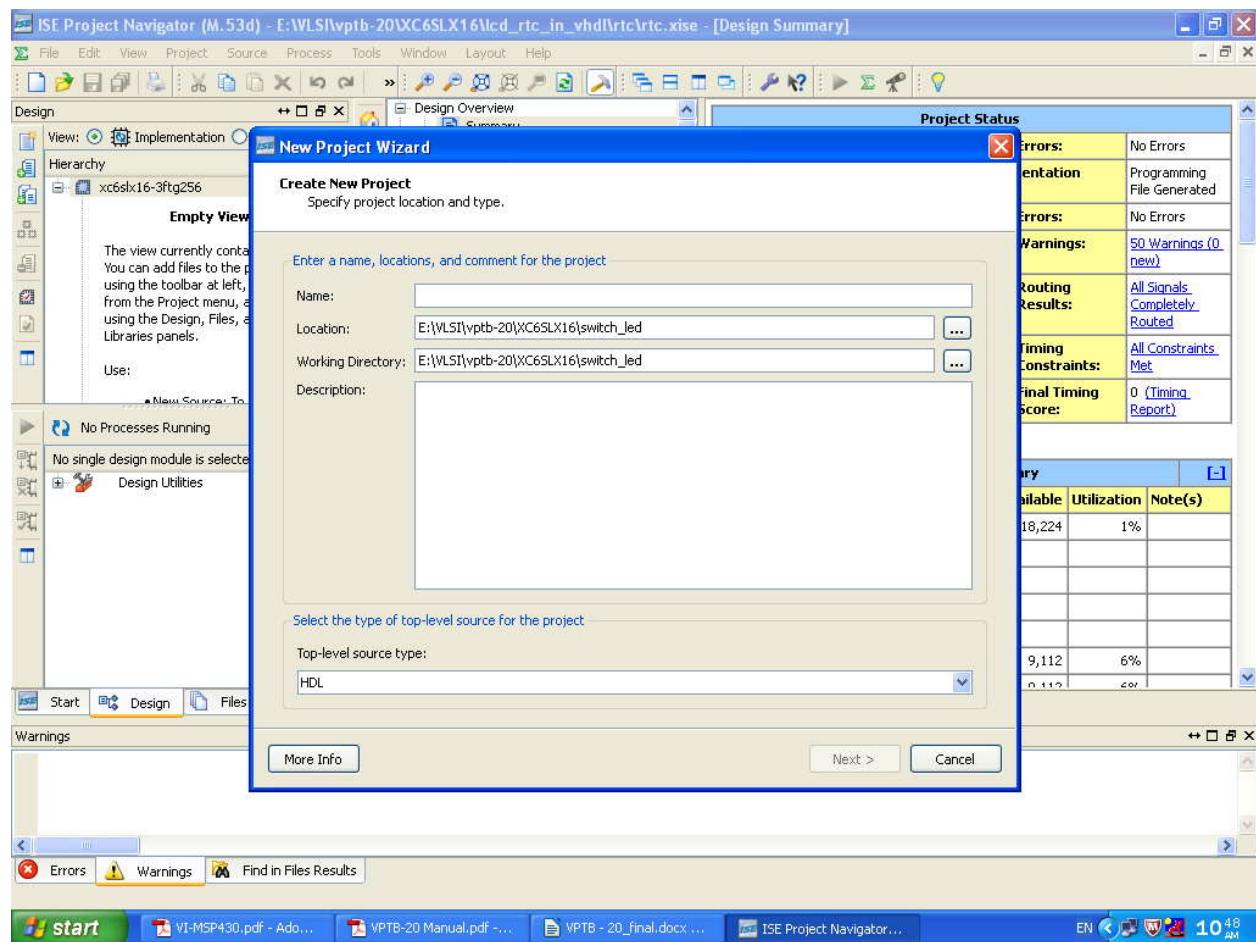
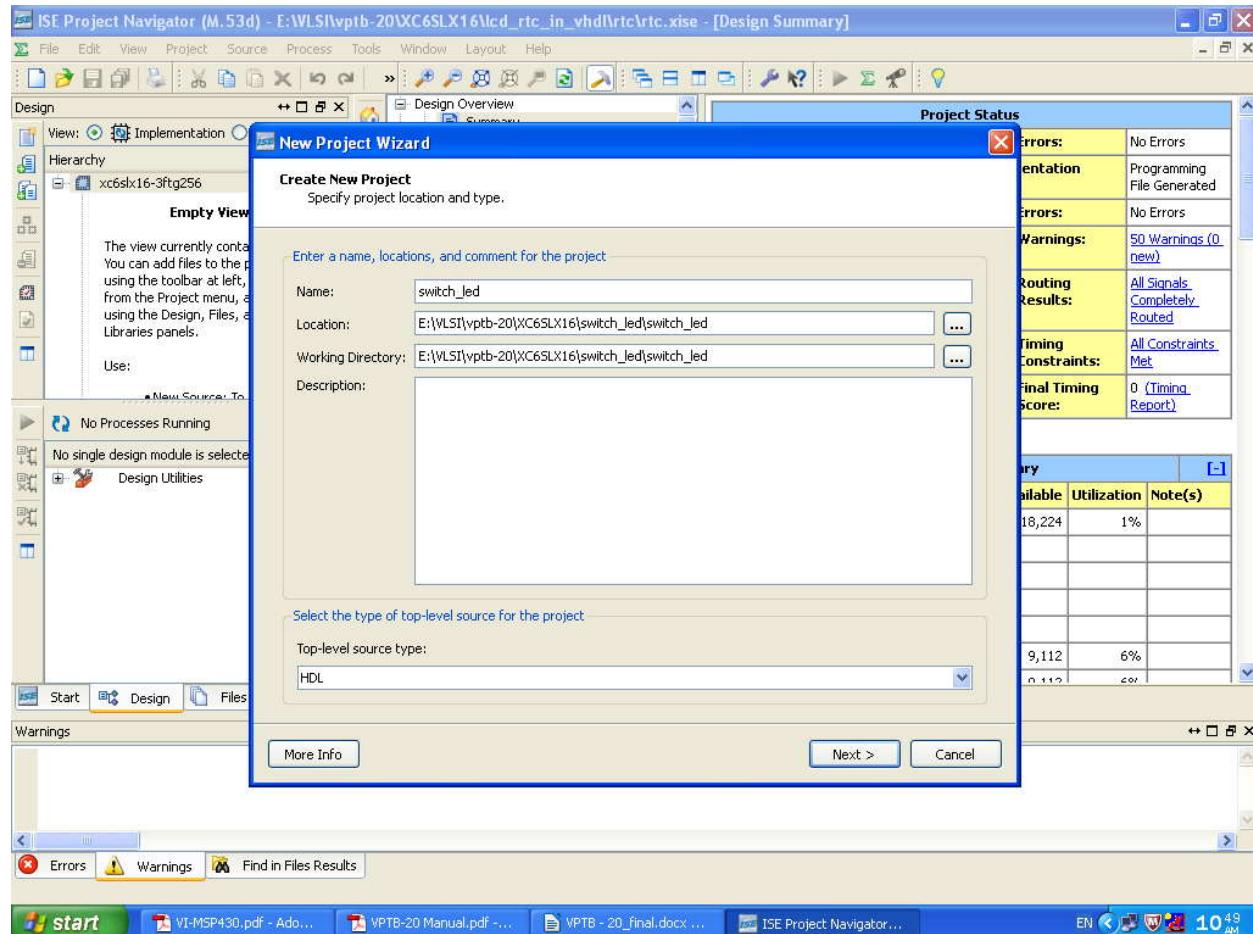

Figure-4
Figure-5
3. A window given in **Figure-4** will appear. In the project name field, give your project Name and select the location where you want to save the project (refer **Figure-5**). In the **Top-Level Module** selects **HDL** and click **Next**.